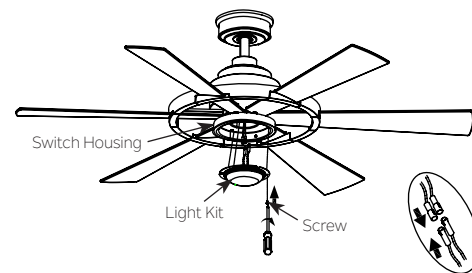

Fig. 22
Step 2. Hold the light kit close to the switch housing and connect the WHITE wires from the light kit and fan by pushing the connectors together. Follow the same procedure with the BLACK wires. (Fig. 22)
Step 3. Tuck the connections neatly into the light kit. Place the two slot holes on the light kit over two (2) screws previously loosened from the switch housing. Rotate the light kit until it locks in place at the narrow end of the key holes. Securely tighten two(2) screws previously loosened and the one previously removed. (Fig. 22)